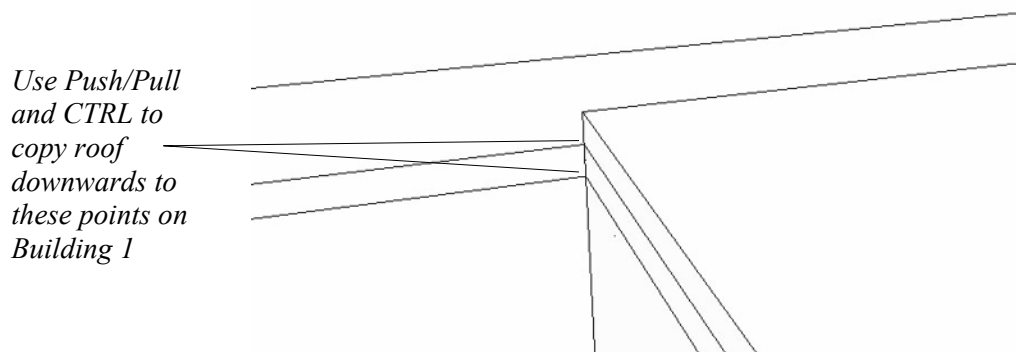

Figure 28. Roof of Building 2 copied downwards to copies on Building 1
- Copy the roof of Building 2 downwards with **Push/Pull** and **CTRL** and select the 300mm and 600mm points as shown in Figure 28.